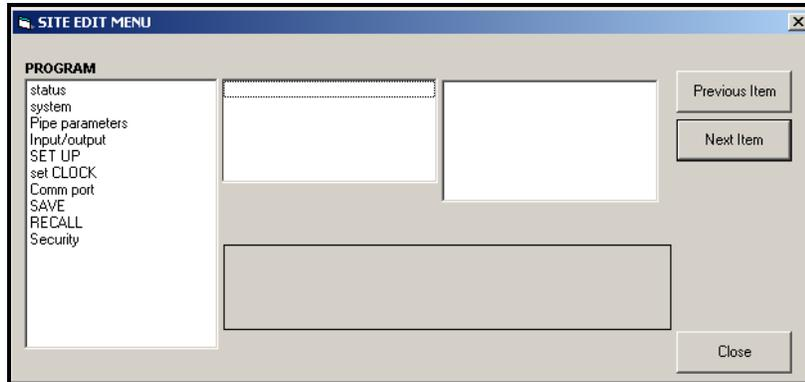

Figure 37: The Site Edit Menu Window
5. To open a particular menu, double-click on that menu on the tree. For example, if you double-click on the Site Edit Menu, a window opens similar to Figure 37.